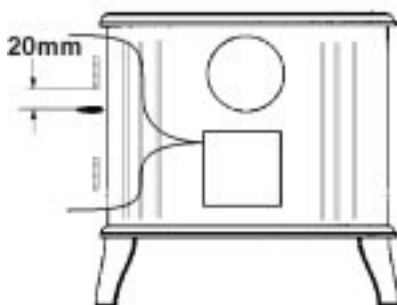

Figure 10
4. Hold a lighted smoke match close to the draught diverter outlet at the back of the stove. See figure 10.